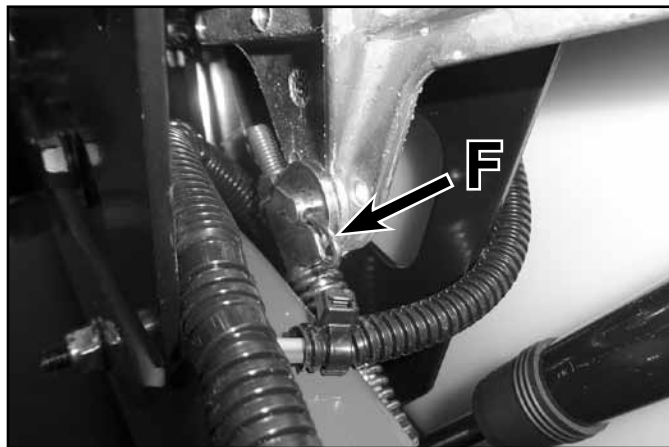

Fig. 029
4. Install the motion control rod and clips and pins (F) (Fig. 029).